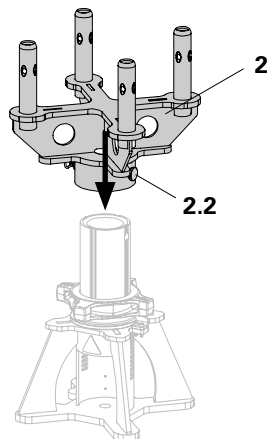

Fig. A1.02a
1. Place Connecting Plate (2) with Connecting Bolts (2.2) on the Spindle Tube. (Fig. A1.02a)